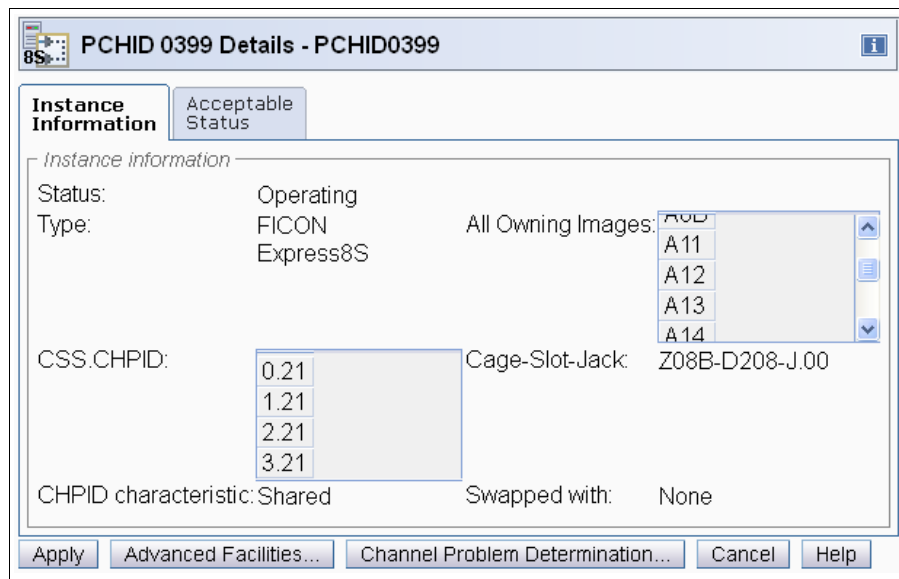

Figure 7-53 HMC PCHID details for 399
Display the list of channels installed on the CPC. Search the list for PCHID (399), and double-click the PCHID icon. The PCHID details panel shown in Figure 7-53 is displayed.